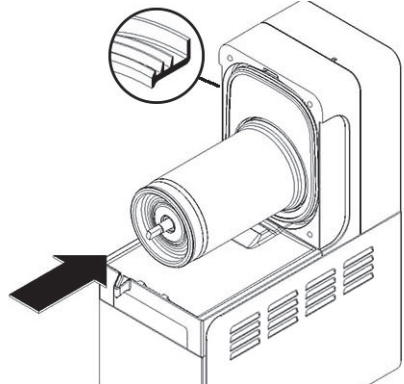

figure 18
- 4 Fit bowl gasket around its seat. Note: the largest brim of gasket must face against the rear wall (see figure 18).